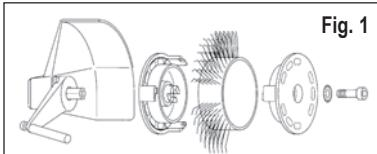
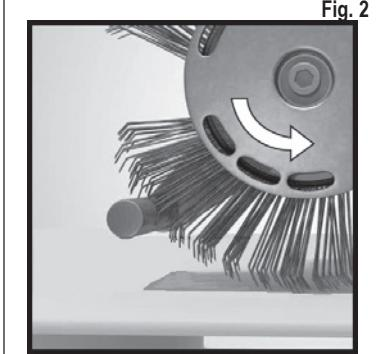

Fig. 1
Fig. 2
3. Interrupt supply of compressed air and then fasten **MBX®** Bristle Blaster® 23 mm or 11 mm belt correctly to the tool using the related adapter system (pay attention to direction of travel) and the related serrated lock washer and screw. See Fig. 1 and Fig. 2
- Are you using an **MBX®** belt with the wrong direction of travel? – Fit the brush belt such that it runs in the correct direction (see section 7, Placing in operation, Fig. 2).